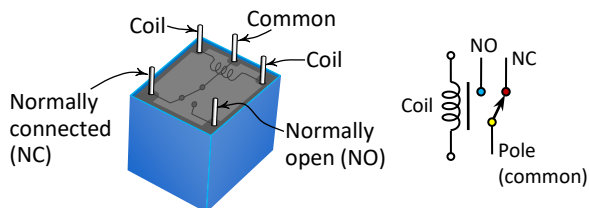
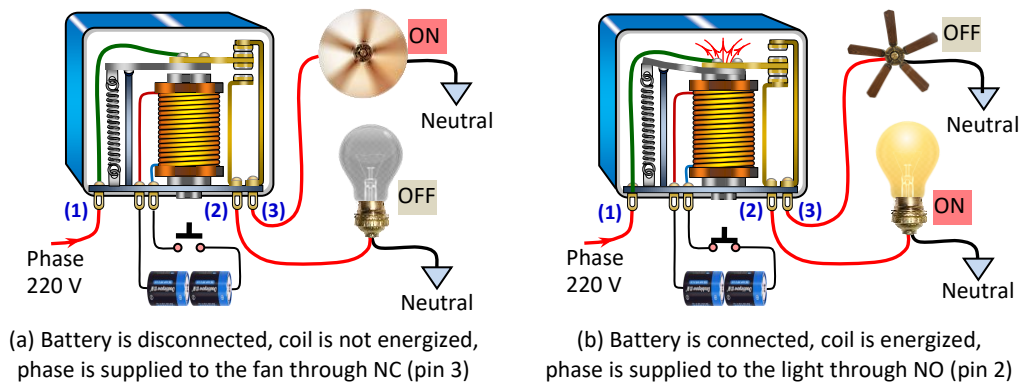

Fig.1-116: Pin-configuration of a common relay
Fig.1-117: Controlling loads using relay
The NO and NC contacts are also called throws and the moveable contact (attached to armature) is called the pole. Mostly used relays have one pole and two throws. So these types of relays are called **SPDT** (Single Pole Double Throw) relays. On the other hand, an SPST (Single Pole Single Throw) relay has only one pole and one throw (ON). There are some other types of relays. The schematic symbols of different types of relays are shown in Fig.1-116 and Fig.1-117 shows the pin-connection of a common relay.